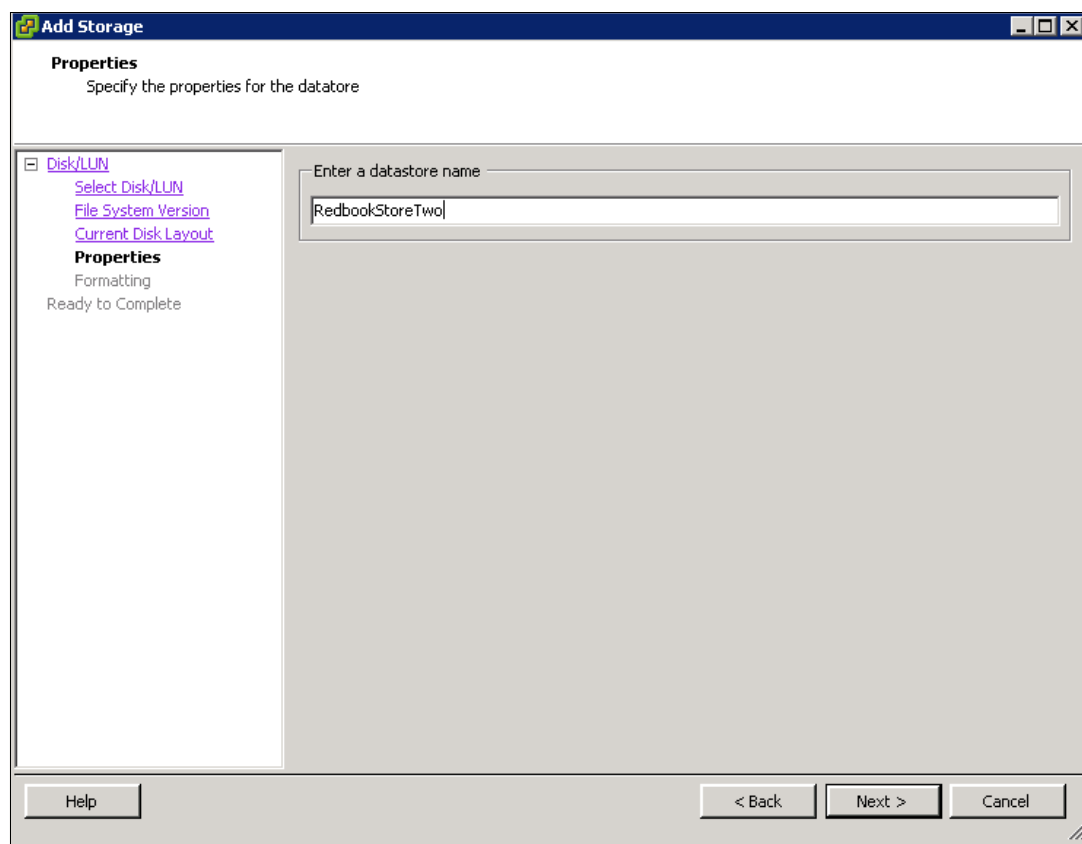

Figure 5-89 Enter a Datastore name
11. Enter a name for the Datastore and click **Next**, as shown in Figure 5-89.